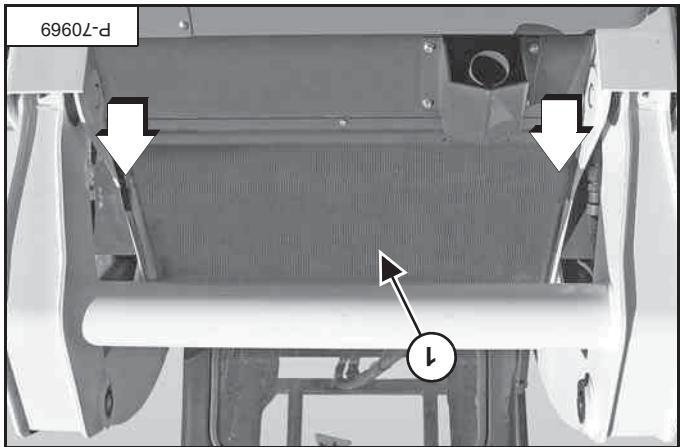

Figure 32
Lift the rear grille (item 1) [Figure 32] up over the muffler, then pull the rear grille and remove it from the loader.